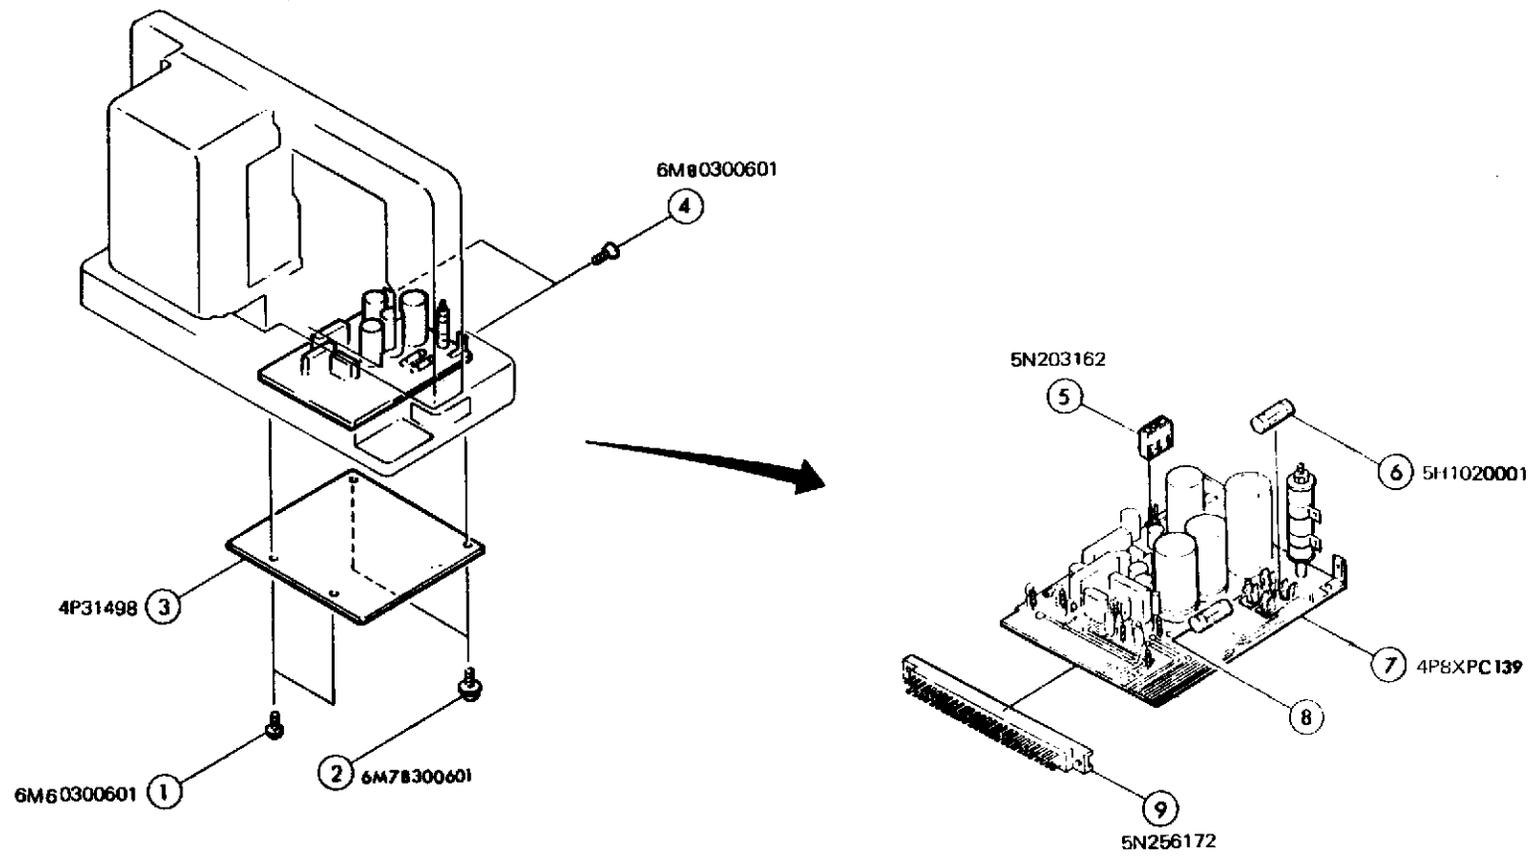

Fig.19
**TROUBLESHOOTING:** Refer to Fig. 19.